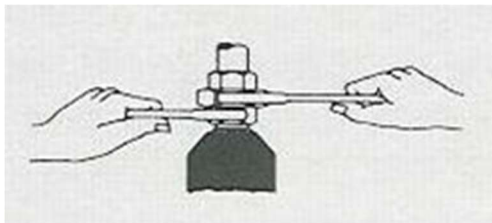

Figure 3 Loosening union nuts with two wrenches
2. Loosen the union nuts of the fittings using two wrenches, as shown in **Figure 3**.